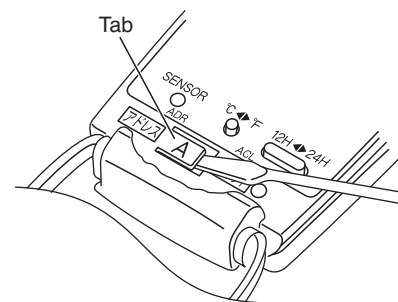

Fig. 62
- (1) Switch on the power source.
- (2) Break the address-setting tab marked "A" on the second remote controller to change the address (Fig. 62). When the tab is removed, the address is automatically set to B (Fig. 63).
- (3) **(SAP-KMRV74EH, KMRV94EH, KMRV124EH, KRV184EH, KRV244EH)**